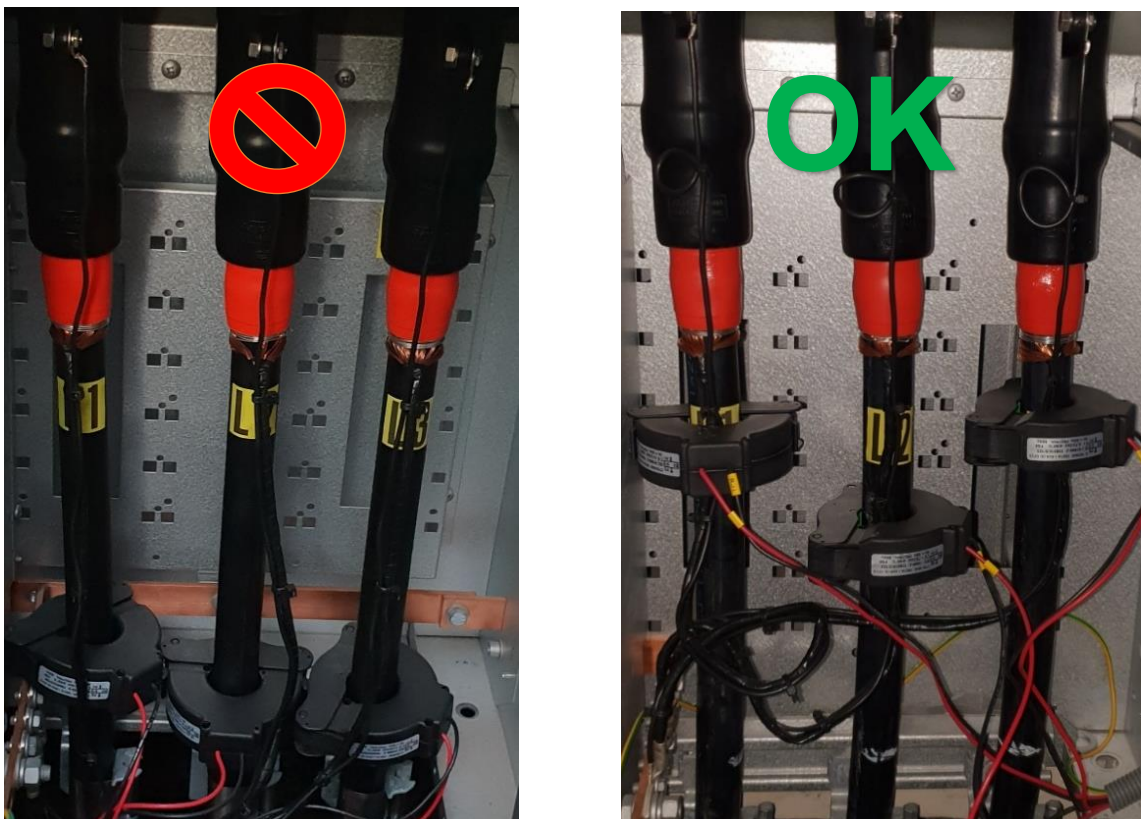

Figure 8: Left – wrong – the earth shield returns OUTSIDE the current transformers.
2. The shield current shall not be measured by the fault detector. This is the reason why they earth shield is led back through the transformer; any shield current will be cancelled (Figure 8).